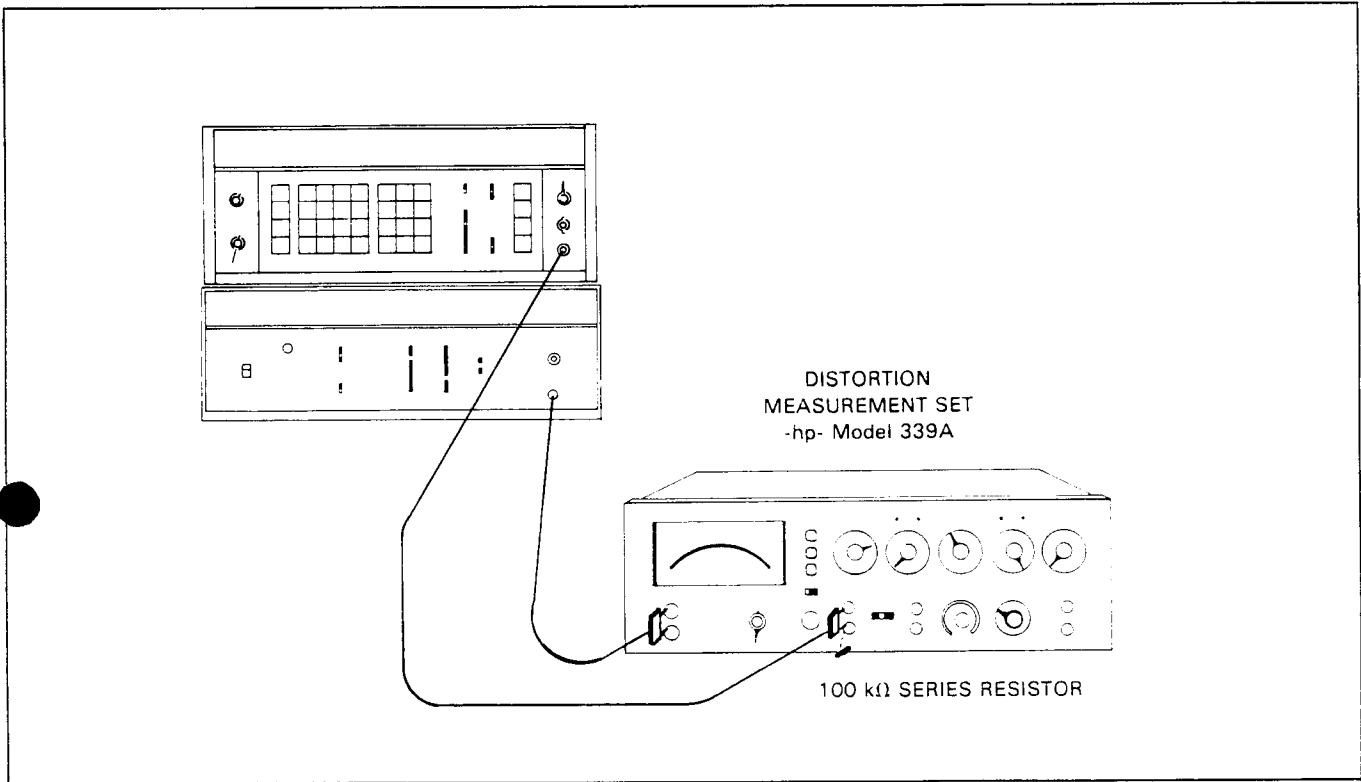

Figure 4-13. Input Impedance Test.
b. Connect the equipment as shown in Figure 4-13.